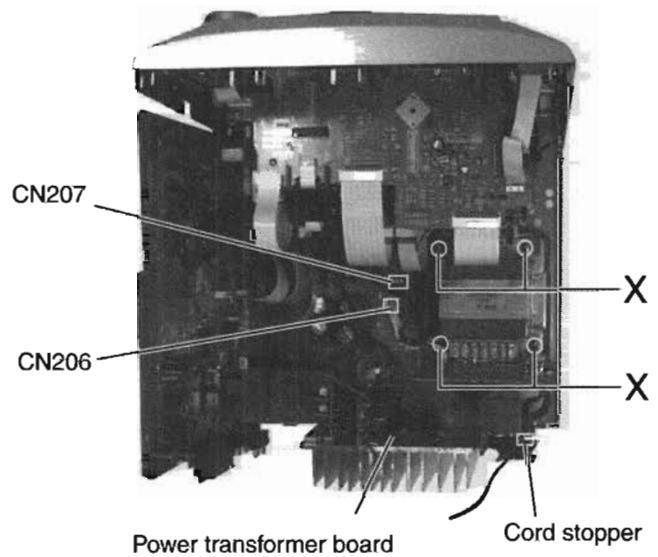

Fig.26
■ **Removing the Power Transformer Board** (See Fig.26)